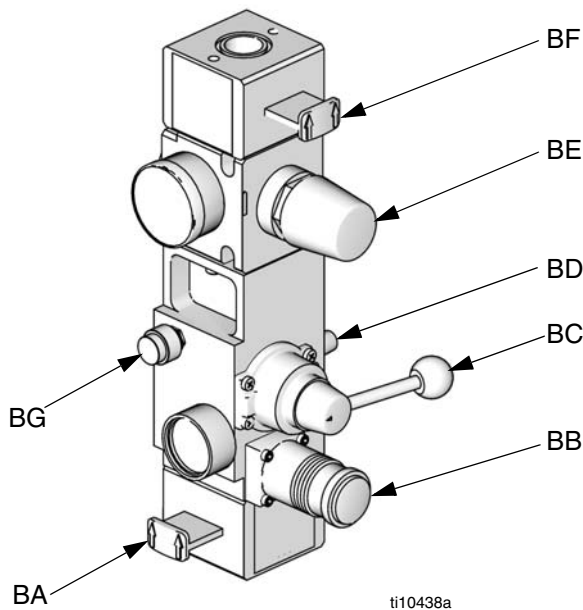
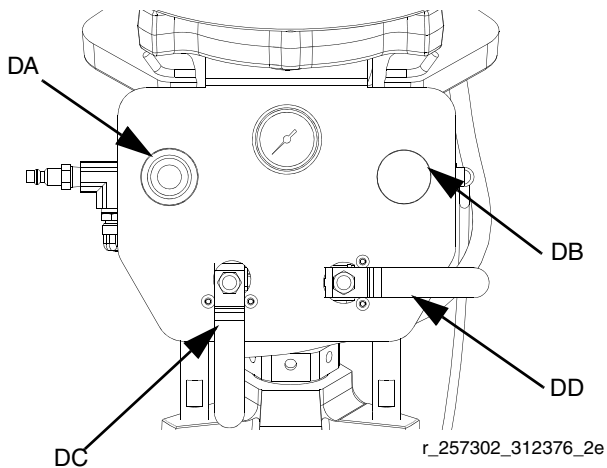

FIG. 3. Integrated Air Control Module
FIG. 7: Elevator Air Controls
| G | Integrated Air Controls (see FIG. 3) | U | Air Line Drain Valve (not supplied) |
- G Integrated Air Controls (see FIG. 3)
2. **For D200s, D200, S20, and D60 Air Controls:** See FIG. 3, page 12.
- a. Close the air motor slider valve (BF) and the main air slider valve (BA).
- c. Jog the director valve (BC) up and down to bleed air from ram cylinders.
3. **For L20c Air Controls:** See FIG. 7, page 14.
- a. Close the air motor valve (DC) and the elevator director valve (DD). The ram will slowly drop.
7. Open the fluid line drain valve and the pump bleeder valve (P). Have a container ready to catch the drainage.
8. Leave the pump bleeder valve (P) open until ready to spray again.